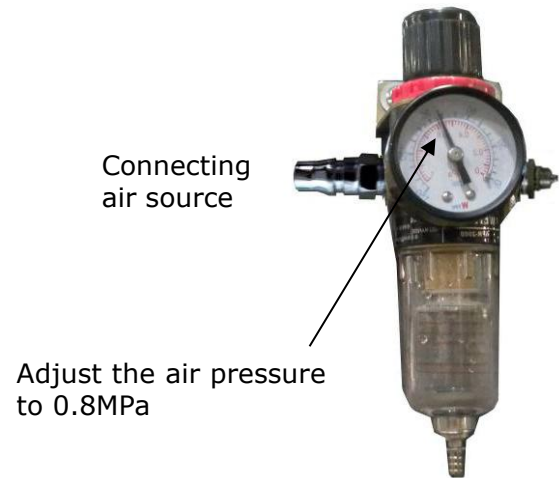

Fig. 17
5.Connecting the air source (air pressure 8kg/cm²), adjust the air pressure to 0.8MPa (See Fig. 17).